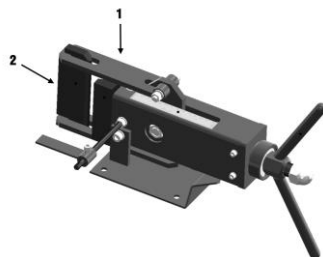

Fig. 4
1. Place the workpiece between the pressing die (#2) and the bending die (#1) (Fig. 4).